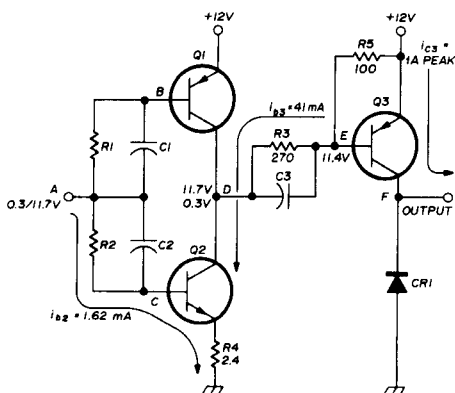

fig. 9. Basic pulse amplifier circuit. Design and operation of this circuit is discussed in the text.
Pulse amplifiers are best designed by working from the output stage back to the pulse source. A sample design is shown in **fig. 9**. Assume that the peak output current is 1 ampere, and that the minimum current gain of transistor Q3 is 25 (from the data sheet). The base current required to saturate Q3 at all times is then
0.7 volt through the base resistor. This produces an output waveform delayed from the driving waveform. This effect can be overcome by using speed-up capacitors (C1, C2 and C3 in fig. 9). These capacitors have much the same effect as the trimmer capacitor in an oscilloscope probe. The correct capacitance value causes a square-wave voltage (rather than a damped voltage) to appear on the base.